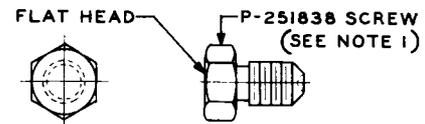

Fig. 5A — Screw Without Raised Circular Section
1. When replacing a missing or damaged screw, a fillister head screw, or a screw of the type shown in Fig. 5A, use the P-251838 screw if it can be turned in the associated part without undue pressure. If not, use the P-253169 screw.